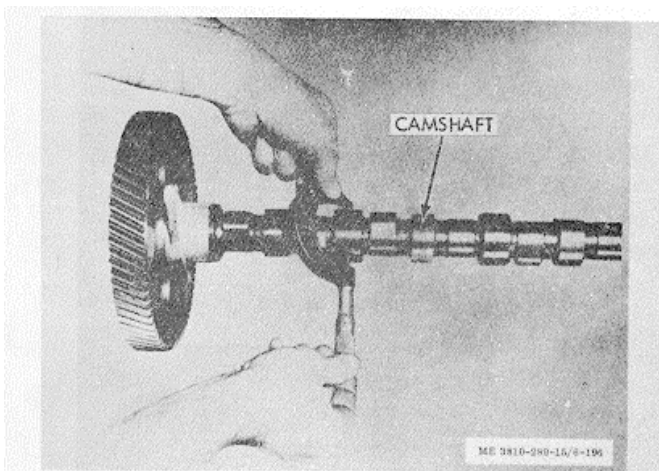

Figure 3-188. Camshaft journals measurement.
(1) Steam clean camshaft assembly.
(2) Check camshaft journals with micrometers. Refer to figure 3-188.
(3) Replace camshaft if journals are worn beyond limits given in table 2-2.
(4) Replace camshafts that have scuffed, scored, or cracked injector or valve lobes. Check by magnetic inspection for possible cracks.
(5) Regrinding of camshaft lobes is not recommended.
(6) Magnetic inspection.